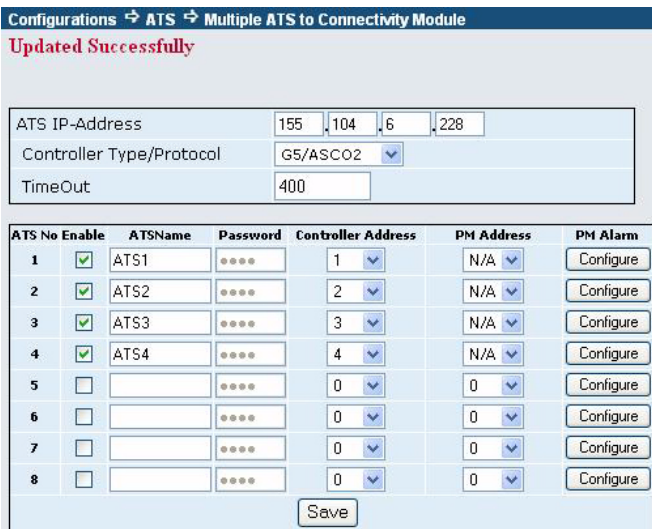

Figure 23: Multiple ATSs connected to one CM
In this mode, there is a single Connectivity Module for multiple ATSs (that are daisy chained together). Therefore the configuration is for one IP address (as assigned by the network architect or administrator). Refer to the Figure 23.
- Be sure that a *PM Address* has been set (Figure 21). Then click the **Configure** button (Figure 23) next to *PM Address*.